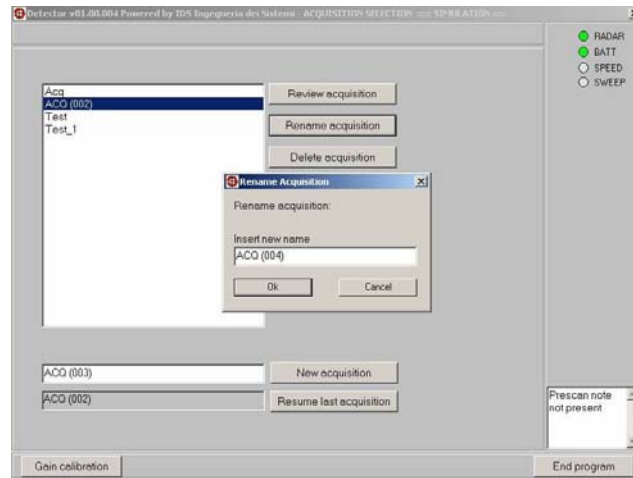

Fig. 5-14 – How to rename a survey
- Press the **Rename acquisition** button to change the name of a selected survey; write the new name then press the **OK** button to confirm the change (Fig. 5-14).